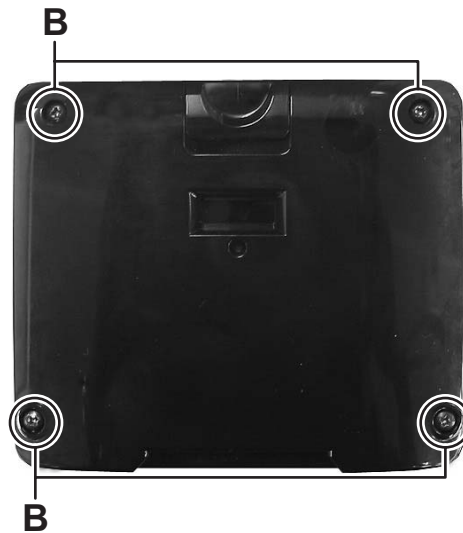

Fig.3
3.1.2 Removing the rear panel (See Fig.3)